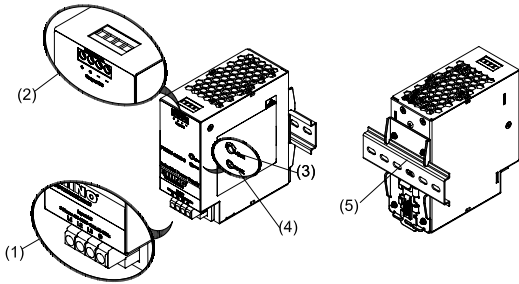
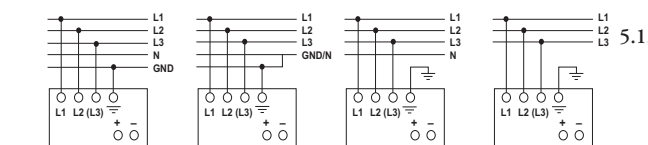

Figure 1
Figure 5
## 2. Device description (Fig. 1)
## 5.1. Input connection (Fig. 1, Fig. 5)
Use L1, L2, L3 with GND connections of input terminal connector (See Fig. 5) to establish 3 x 400-500VAC connection. Fig. 5 shows the connection to the various network types.
## 5.2. Output Connection (Fig. 1 (2))
Use the "+" and "-" screw connections to establish the 24 VDC connection. The output provides 24 VDC. The output voltage can be adjusted from 24 to 28 VDC on the potentiometer. The green LED DC OK displays correct function of the output (Fig. 1 (4)). The device has a short circuit and overload protection and an over-voltage protection limited to 35 VDC.